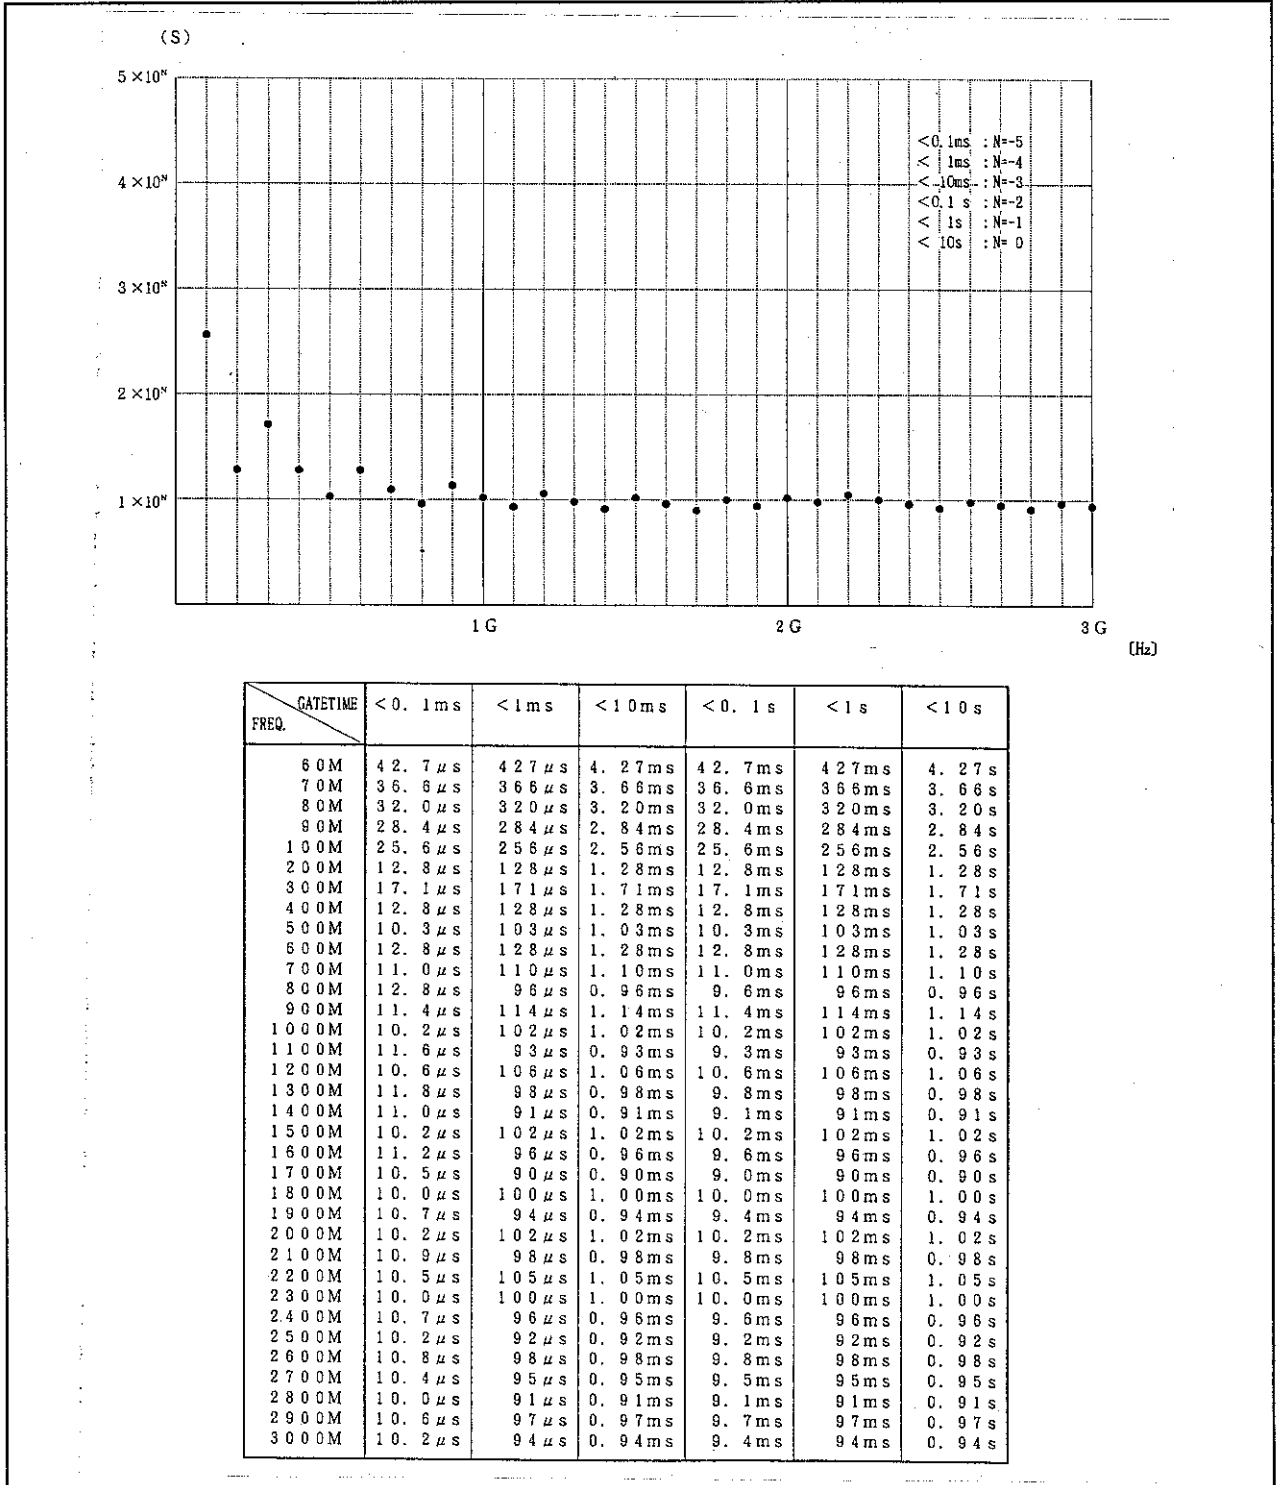

Figure 5-2 Relationship between DUT Signals and Gate Times (FREQ.A)
- ② Figure 5-2 shows the relationship between the preset GATE TIMEs, the number of digits displayed, and the actual gate times.